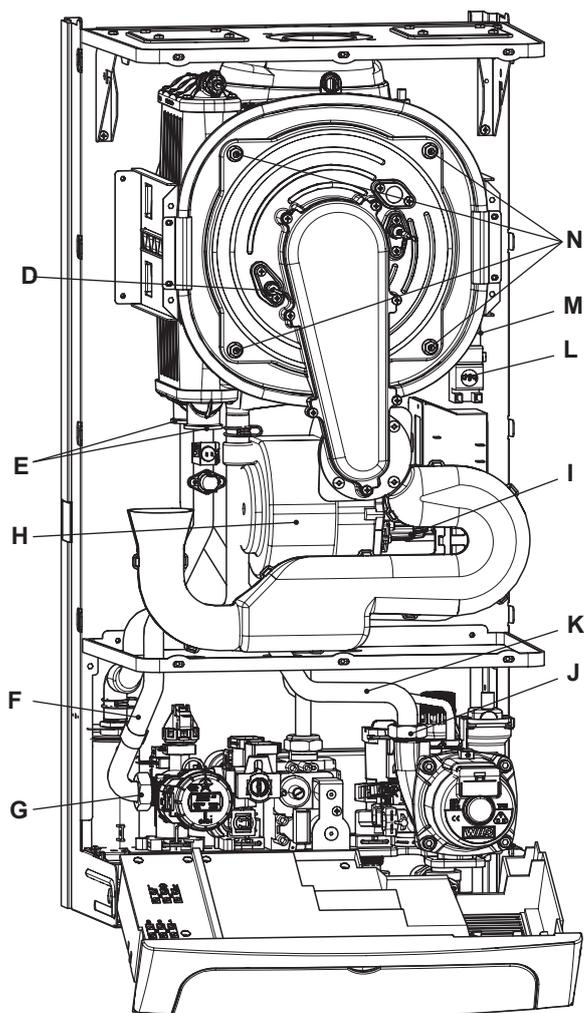

Figure 5.2
- 4 Disconnect the fan connector I by pressing the plastic hook placed on the side of the connector (Figure 5.2).
- 5 Unscrew the nuts N (Figure 5.2).
- 8 Remove the clips E (Figure 5.2).
- 9 Loosen the connection J and slightly move the pipe K upwards, turn it towards left (Figure 5.2) and then move the pipe downwards freeing it from the Condensing heat exchanger.
- 10 Loosen the connection G and slightly move the pipe F upwards, turn it towards left (Figure 5.2) and then move the pipe downwards freeing it from the Condensing heat exchanger.
**Ensure to tighten the nuts N - Figure 5.2 firmly.**